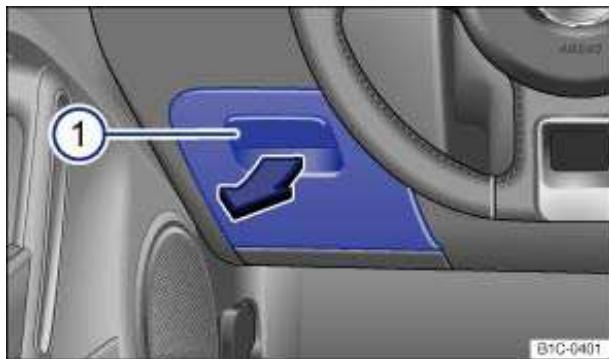

Fig. 81 On the driver side: Storage compartment.
To open the compartment, pull the handle ⇒ fig. 81 (1) in the direction of the arrow.